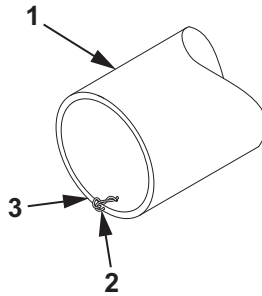

Figure 2. Figure 1. 4 In. X 10 Ft. Suction Hose Repair.
1. Obtain the correct length of replacement hose (Figure 2, Item 1).
2. Identify the ground wire (Figure 2, Item 2) in each end of the hose (Figure 2, Item 1).
3. Using needle nose pliers, pull the ground wire (Figure 2, Item 2) approximately 1/2 inch (13 mm) out of the hose (Figure 2, item 1) so the ground wire (Figure 2, Item 2) is loose.
4. Using needle nose pliers, cut a piece of copper wire (Figure 2, Item 3) approximately 1 1/2 inches (38 mm) long.
5. Insert the piece of copper wire (Figure 2, Item 3) into the hose (Figure 2, Item 1) approximately 1/2 inch (13 mm) away from the ground wire (Figure 2, Item 2).
6. Using needle nose pliers, wrap the copper wire (Figure 2, Item 3) and ground wire (Figure 2, Item 2) together, forming a pigtail.
7. Using needle nose pliers, carefully bend the ground wire (Figure 2, Item 2) inside the hose (Figure 2, Item 1).